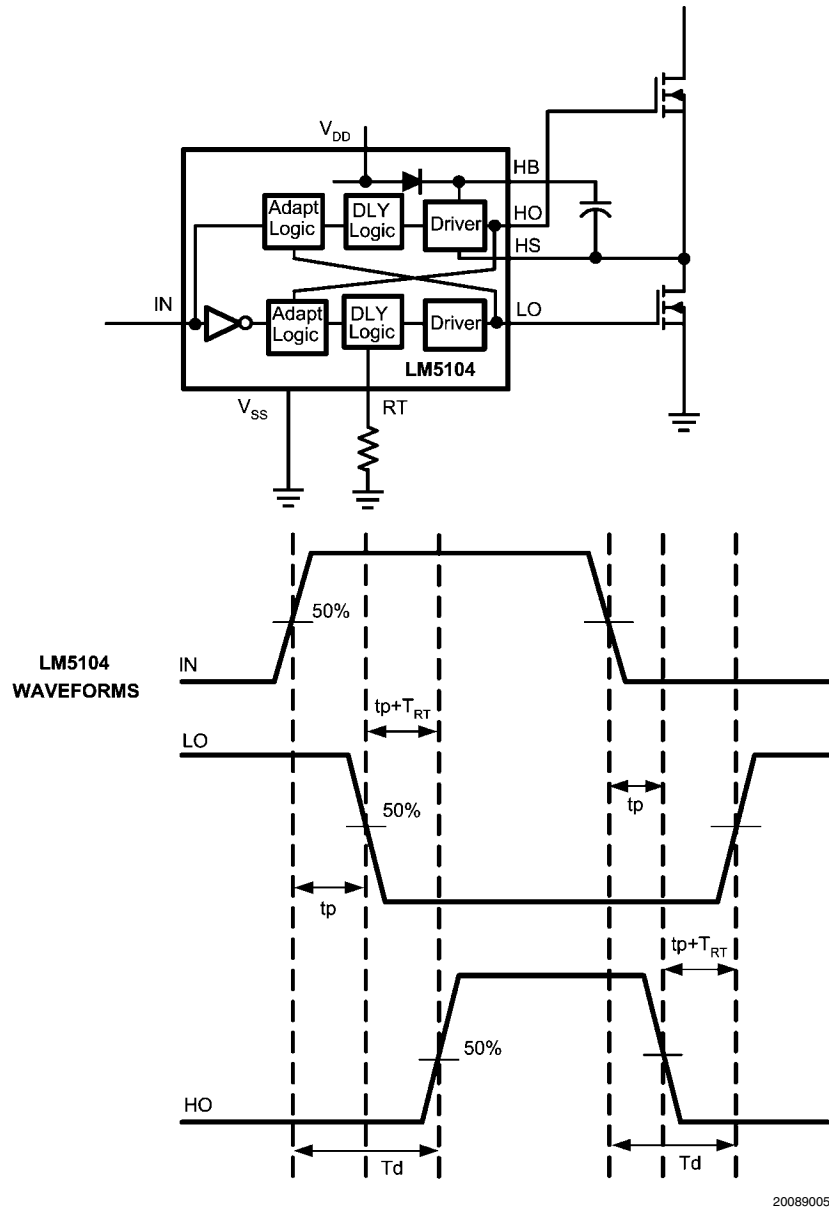

FIGURE 3. Application Timing Waveforms
LM5104 is a high voltage, high speed dual output driver designed to drive top and bottom MOSFET's connected in synchronous buck or half-bridge configuration, from one externally provided PWM signal. LM5104 features adaptive delay to prevent shoot-through current through top and bottom MOSFETs during switching transitions. Referring to the timing diagram *Figure 3*, the rising edge of the PWM input (IN) turns off the bottom MOSFET (LO) after a short propagation delay ( $t_p$ ). An adaptive circuit in the LM5104 monitors the bottom gate voltage (LO) and triggers a programmable delay generator when the LO pin falls below an internally set threshold ( $\approx V_{DD}/2$ ). The gate drive of the upper MOSFET (HO) is